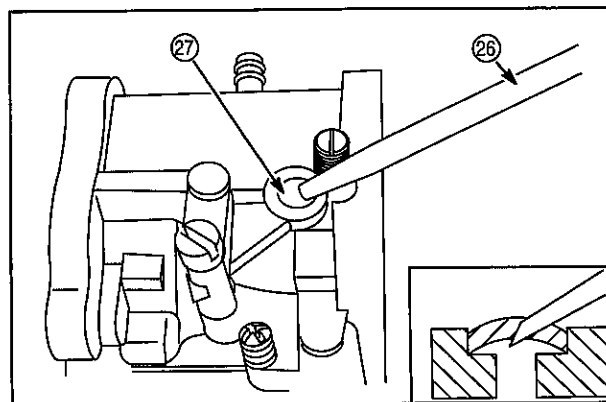

Fig. 32
15. Use a punch (26) to remove transitional hole welch plug (27) from top of carburetor, Fig. 32.